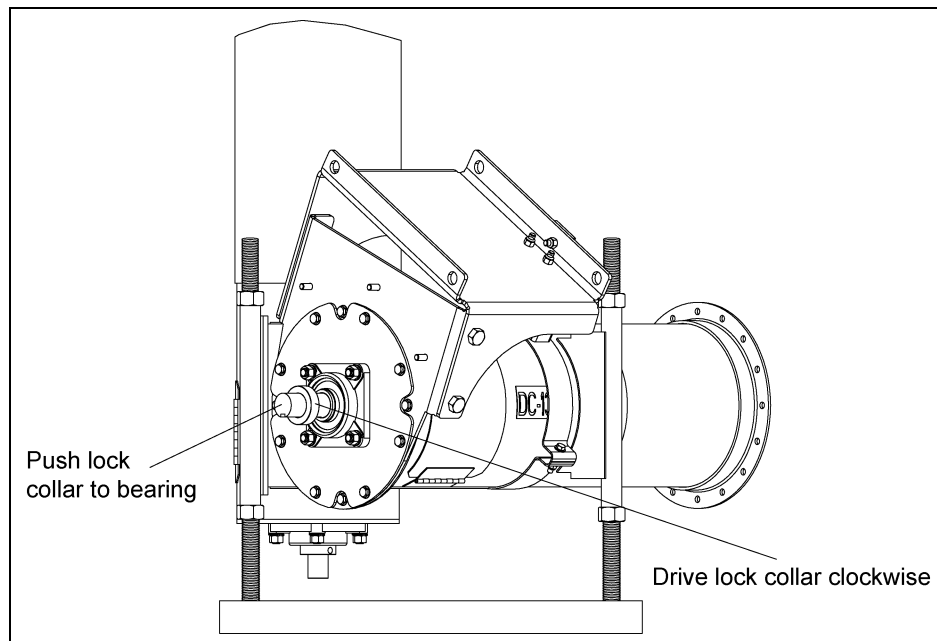

Figure 4N
- Slide the bearing lock collar over the drive shaft up to the bearing. Using a hammer and punch, continue to drive it onto the bearing in the clockwise direction, the same direction of the auger flight rotation. (See Figure 4N.)